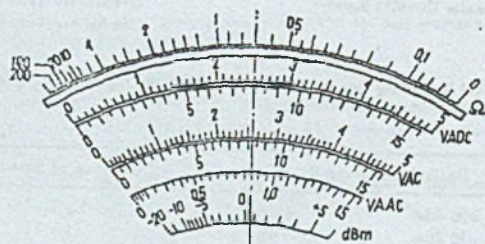

Fig. 1
19. Meter scale is as depicted in Fig. 1.